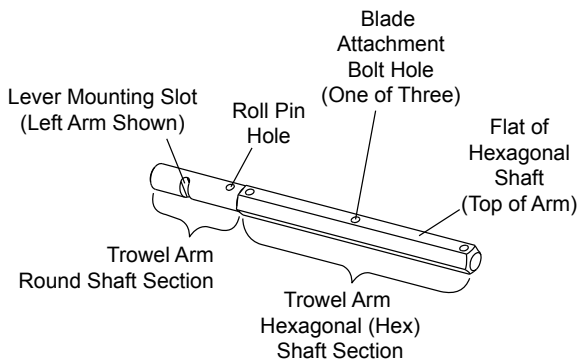
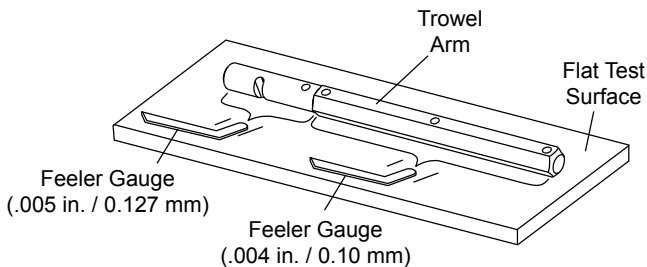

Figure 35. Trowel Arm
Figure 36. Checking Trowel Arm Flatness
Trowel arms can be damaged by rough handling, (such as dropping the trowel on the pad), or by striking exposed plumbing, forms, or rebar while in operation. A bent trowel arm will not allow the trowel to operate in a smooth fluid rotation. If bent trowel arms are suspect, check for flatness as follows, refer to Figure 35 and Figure 36.
2. Check each of the six sides of the trowel arm (hex section). A feeler gauge of .004" (0.10 mm) should not pass between the flat of the trowel arm and the test surface along its length on the test surface. (Figure 36) .